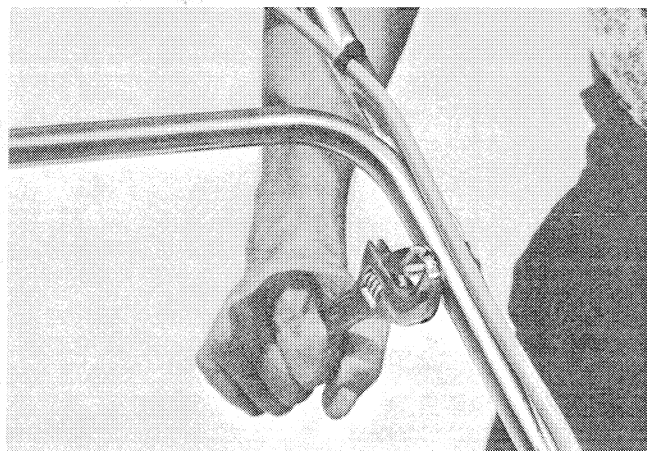

FIGURE 4
(2) Without removing mower from carton, fasten upper and lower handle sections together as shown in Figures 2 & 3, with curved head bolts and wing nuts (Item "C", Figure 1). No. 8015 MOWER ONLY—Use curved head bolts & hex nuts (Item "D", Figure 1) for handle assembly (Figure 4). This handle is not designed to fold for storage.